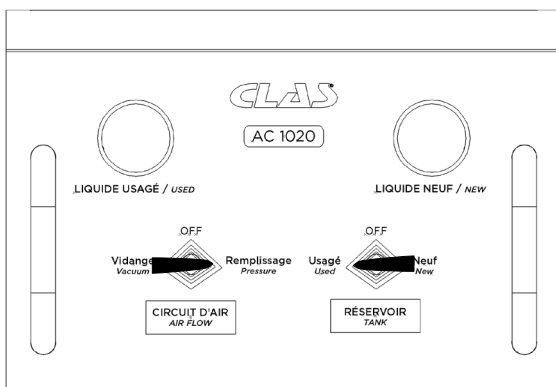

Fig. 13
- Open the air supply valve, then set the "Tank" valve to "USED" and the "Air Flow" valve to "Pressure" (Fig 13).